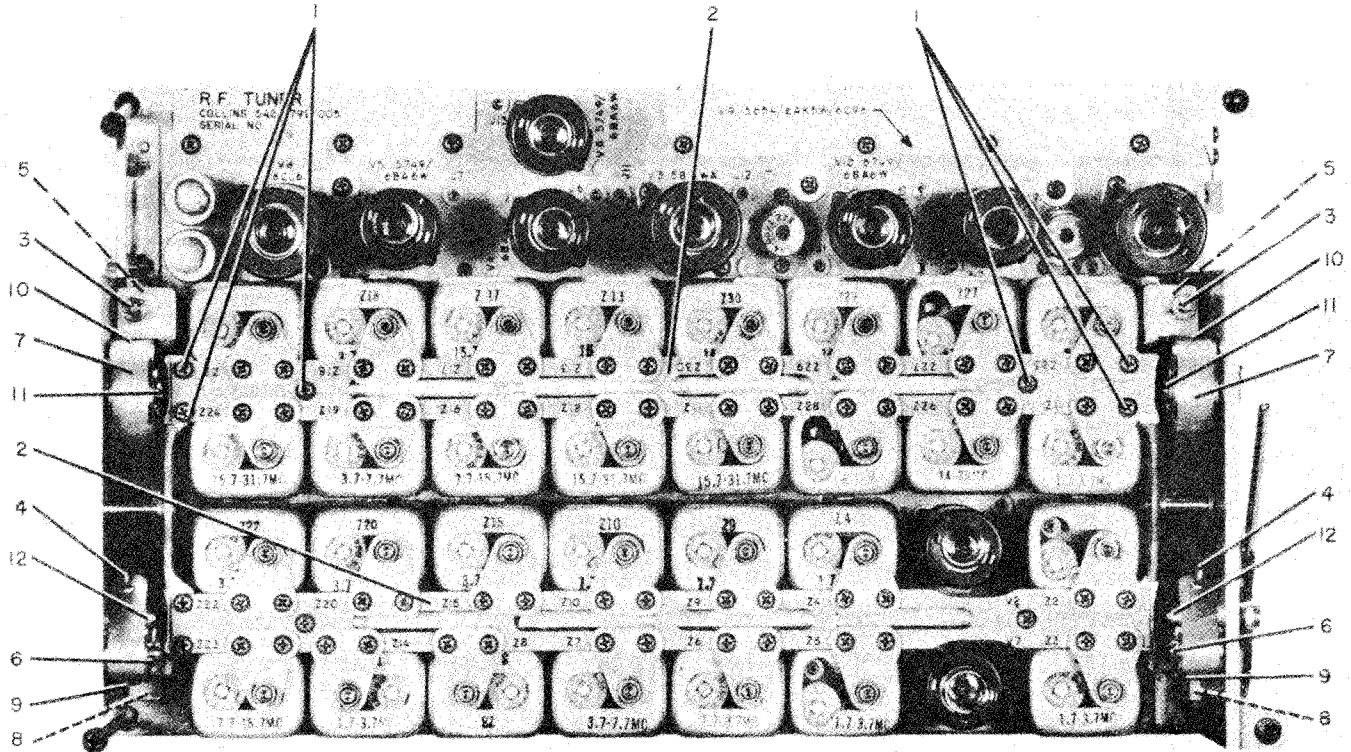
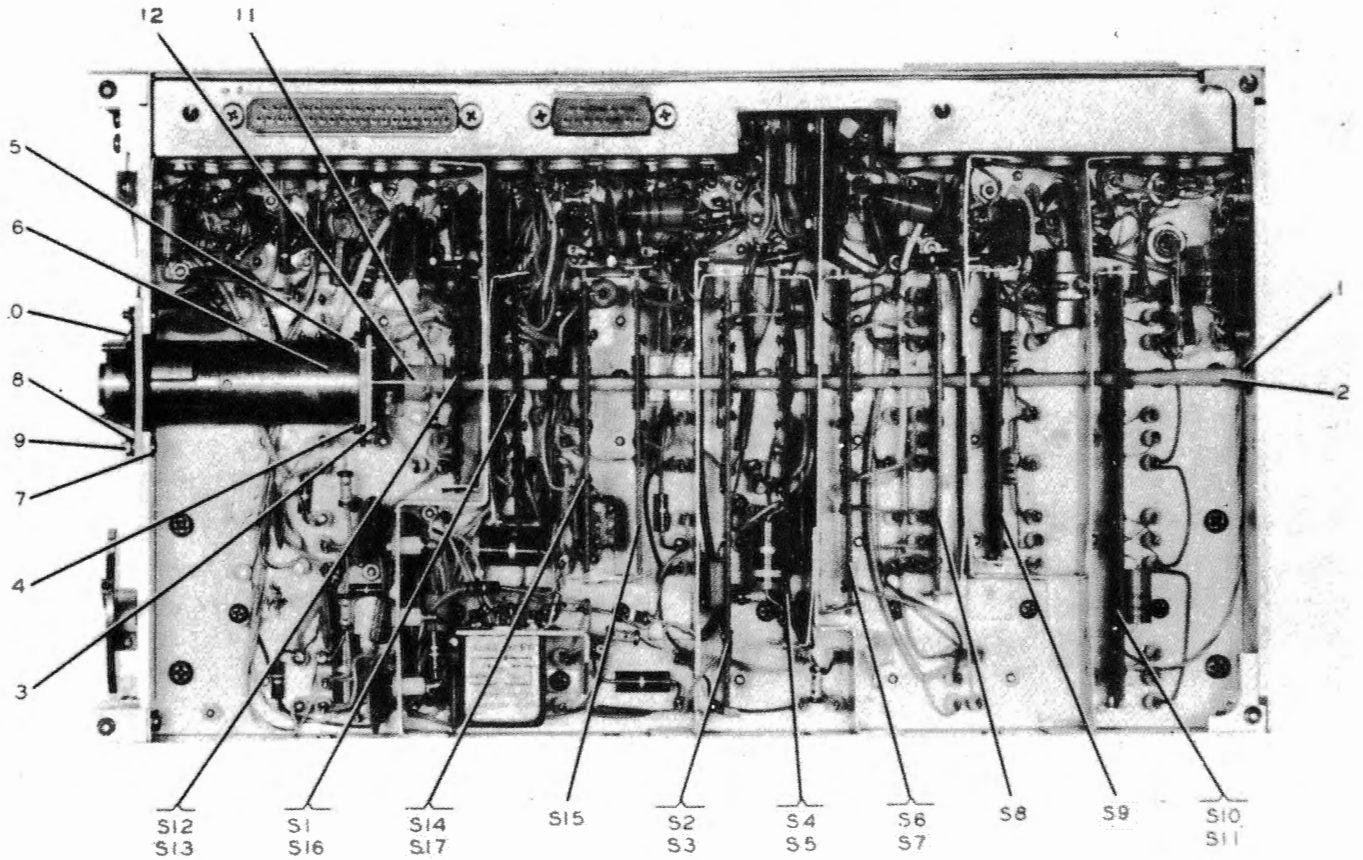

Figure 3-12. R-F Tuner, Top View
Figure 3-13. R-F Tuner, Bottom View
h. REMOVING R-F TUNER SLUG RACK AND TAPE ASSEMBLY. - Refer to figure 3-12 and proceed as follows:
- (1) Run slug rack to full up position.
- (2) Remove screws (1) and remove slug racks (2).
- (3) Loosen the tape tension adjusting nuts (3).
- (4) Using long-nosed pliers, grip spring (4), on the tape of the front slug rack drive near the hook end, and remove from tape. Remove spring (4) from rear tape in like manner.
- (5) Remove short tapes (5) by removing nut (3) securing it to the slug rack end support (6).
- (6) Remove long tapes (7) by removing screws (8), (9), and (10) that secure the tape to the roller (11), slug rack end support (6), and tape drive shaft (12).
i. REMOVING R-F TUNER BAND SWITCH MOTOR AND SWITCHES. - Refer to figure 3-13 and proceed as follows:
- (1) Remove retaining ring clip (1) at the end of the band switch shaft (2).
- (2) Remove the four screws (3), lock washers (4), and nuts (5) that secure the front mount of the band switch motor (6) to the chassis.
- (3) Remove the two screws (7), lock washers (8), and nuts (9) that secure the rear mount of band switch motor (6) to the chassis.
- (4) Disconnect wire (10) from motor (6) by unsoldering.
- (5) The band switch motor (6) may be removed by withdrawing from the motor end of the chassis.
- (6) To remove band switch shaft (2) remove roll pin (11) from coupler (12).
- (7) Remove coupler (12) from band switch shaft (2).
- (8) Slide band switch shaft (2) out rear end of tuner.